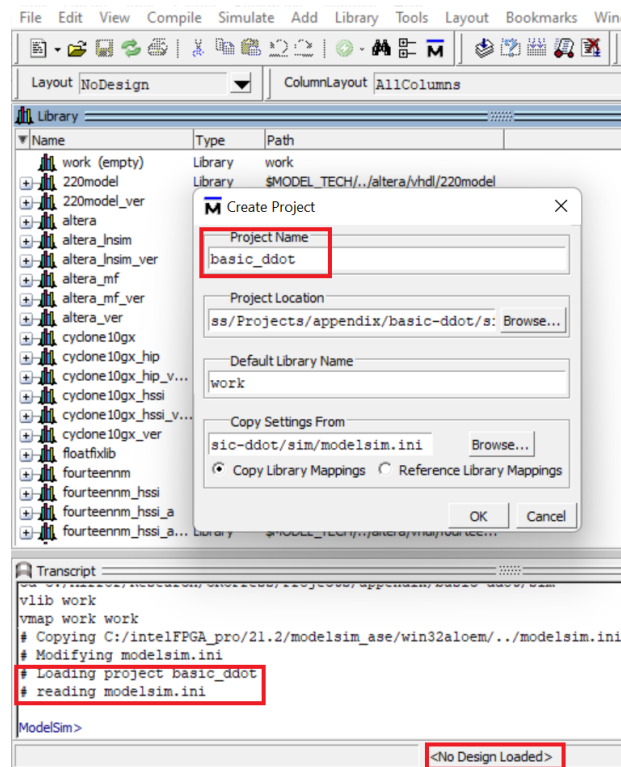

FIGURE B.3
1. Click on File, select New, and then Project, as shown in Fig. B.3.